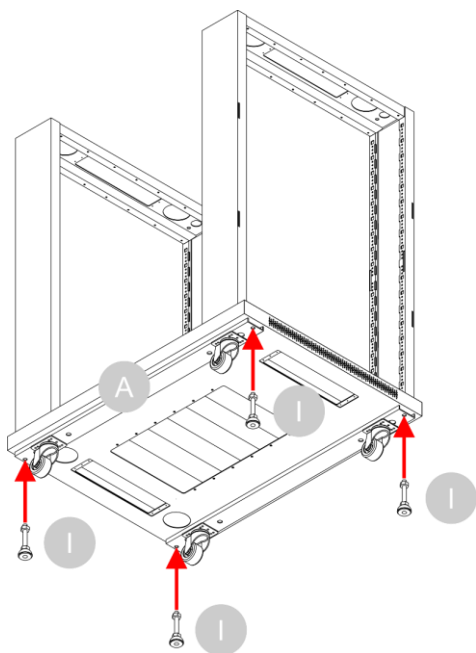

Fig. 23
- 06) Attach the **adjustable feet (I)** to the bottom of the **bottom plate (A)**, by turning them clockwise, as shown in Fig. 23.